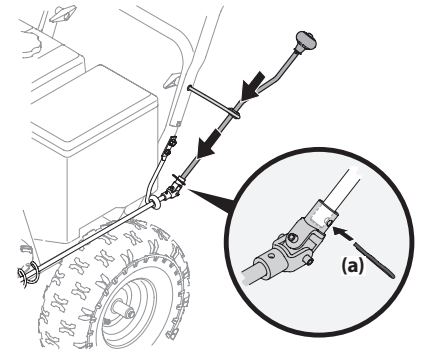

Figure 2-19
2. Insert unattached chute directional control assembly into eye bolt on left side of handle assembly. See Figure 2-19.
3. Line up holes in the end of unattached chute directional control assembly with holes in U-joint attached to lower chute directional control assembly. Insert cotter pin (a). See Figure 2-19. If necessary, bracket securing lower chute directional control assembly to chute base can be adjusted. Refer to Chute Bracket Adjustment in Service section on page 21.